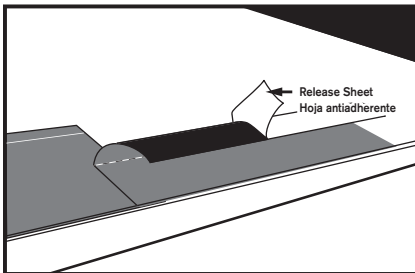

Figure 4 Figura 4
(E) Fold the top half of the underlayment toward the roof edge over itself. Remove the release sheet and reposition the underlayment pressing firmly into place. Repeat process as needed. (See Figure 4)